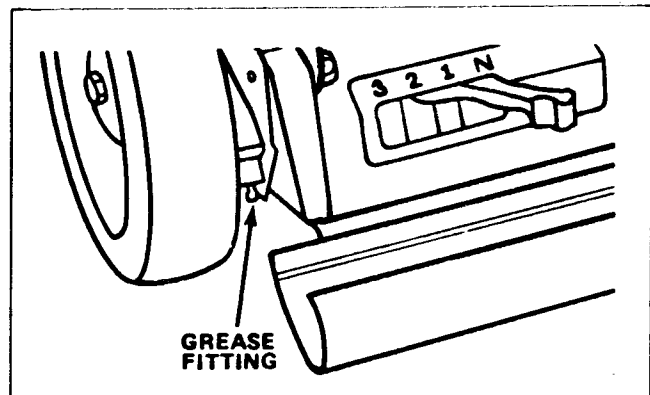

Figure 14
2. Move the rear wheel height-of-cut levers to "2" setting. Wipe grease fittings with a clean rag. See Figure 14. Install a grease gun into the fitting and gently apply 2 or 3 pumps of No. 2 lithium-base grease.